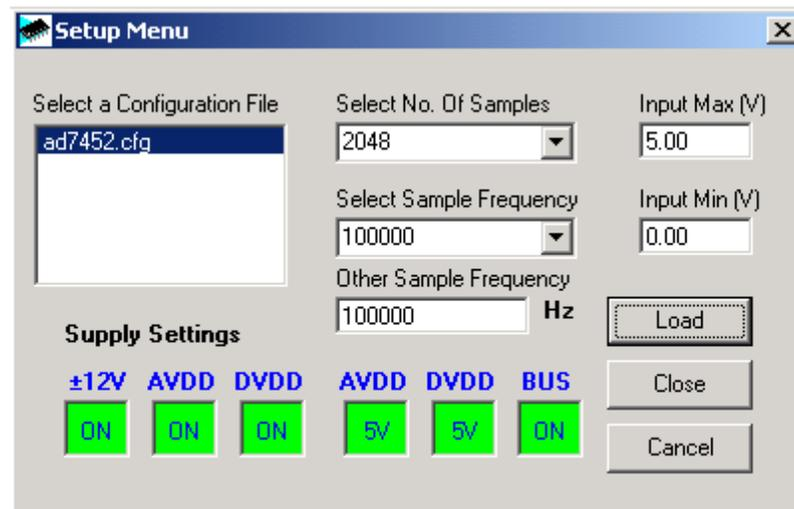

Figure 5. The Setup Screen
- **Setup Menu.** Select this option to display the Setup Menu as shown in Figure 5.
The **Setup Menu**, shown in Figure 5, allows you to load the required configuration file for the evaluation board. Once the configuration file is loaded, the software acquires detailed information about the AD7452 evaluation board and the device connected to the EVAL-CONTROL-BRD2. This includes information such as the number of bits, maximum sampling rate, output coding, maximum analog input, and power supply requirement.